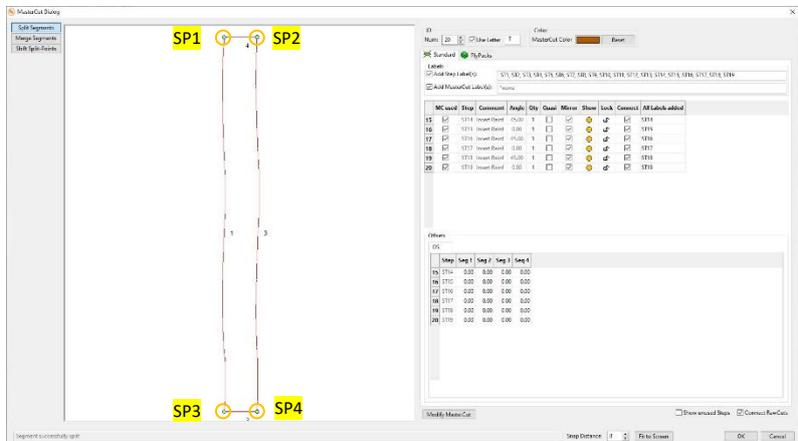

Figure 295
- 91. ... and for MasterCut T and split the outer geometry as shown in Figure 295...